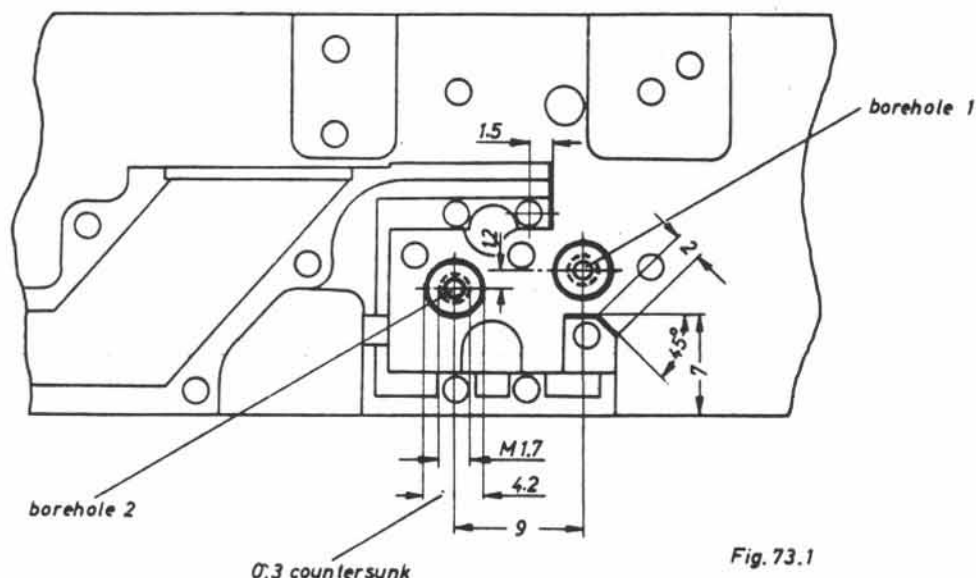

Fig. 73.1
- 3.11 Mount the Leica securely from the cover plate side, seal off all opening giving access to the shutter and using cylindrical cutter 4 ϕ DIN 844 W proceed to mill in accordance with Fig. 73.1.
- 3.12 Should the Leica be due for complete dismantling, lay the main body with the film channel facing downwards and clamp the main body firmly from the shutter side with a plate in such a manner, that the camera can be milled, as shown in Fig. 73.1.
- 3.2 Screw and secure the pre-assembled contact sub-group (see Fig. 74.1) in borehole 1 (see Fig. 73.1) with the aid of screw 15-10.170-24 on the main body.